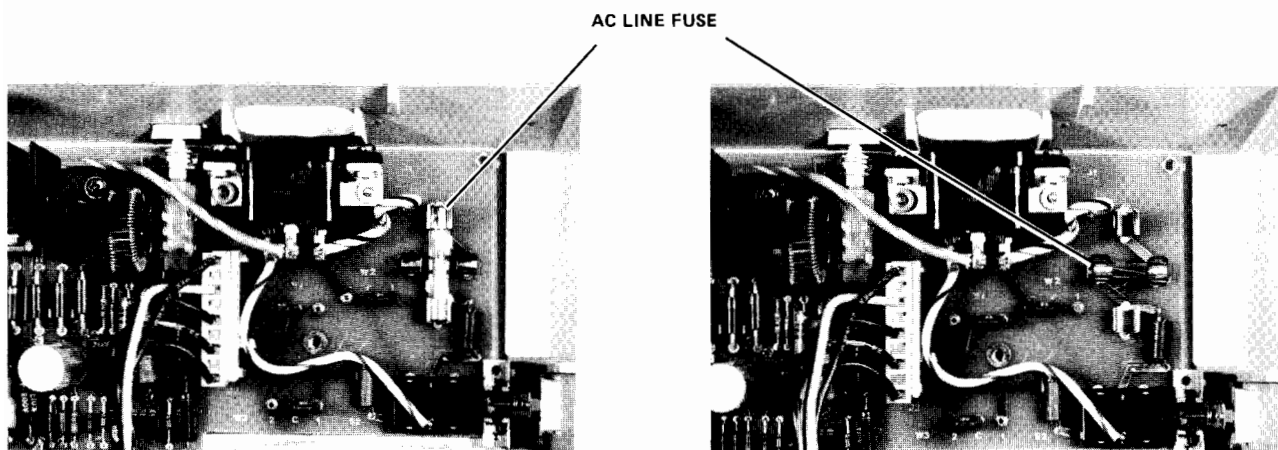

Figure 6-30. AC Line Fuse Replacement
- d. Replace AC line fuse with fuse of proper size and rating. (See Figure 6-30.)